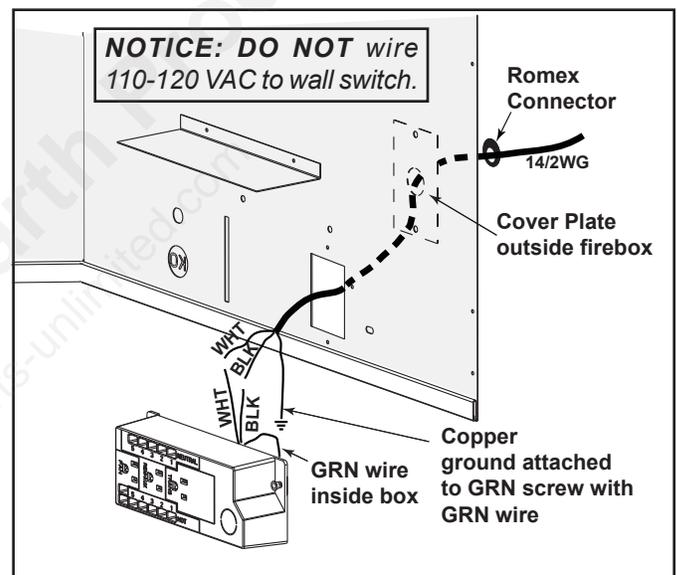

Figure 8.2 Junction Box Detail
- Remove the screw attaching the junction box/receptacle to the outer shell, rotate the junction box inward to disengage it from the outer shell. See Figure 8.2.
- Pull the electrical wires from outside the appliance through the opening into the valve compartment and secure wires with a Romex connector. See Figure 8.2.
- A 110-120 VAC junction box **MUST** be installed for use with a fan or remote control. See Figure 8.2 for junction box wiring. Keep wire lengths short as possible.